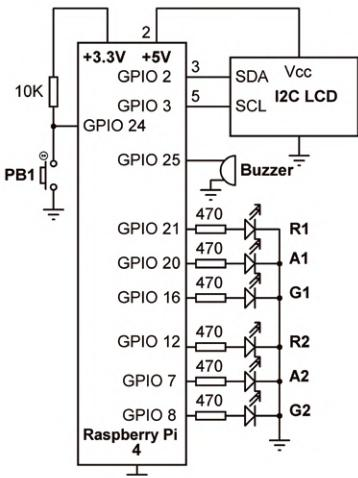

Figure 9.14: Circuit diagram of the project.
The circuit diagram of the project is shown in **Figure 9.14**. Red (R), Amber (A), and Green (G) LEDs are used in this project to represent the real traffic lights.